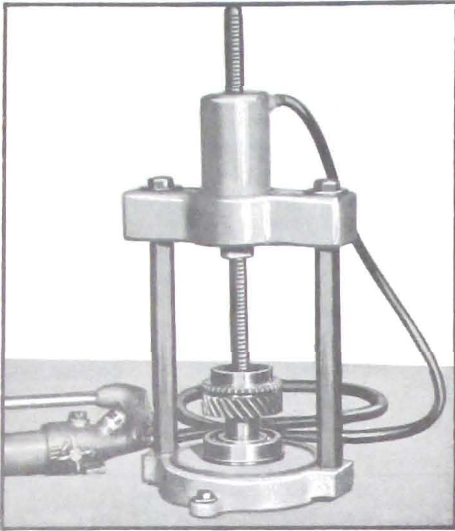

Figure 4-141—Installing Main Drive Gear Bearing
either end of the countergear, two .050" spacers, 20 more rollers, then one .050" spacer. Install in the other end of the countergear, 20 rollers, two .050" spacers, 20 more rollers, and another .050" spacer. (See Figure 4-141).
3. Press bearing onto main drive gear (snap ring groove to front), using J-5746 (Figure 4-141). Be sure bearing fully seats against shoulder on gear.